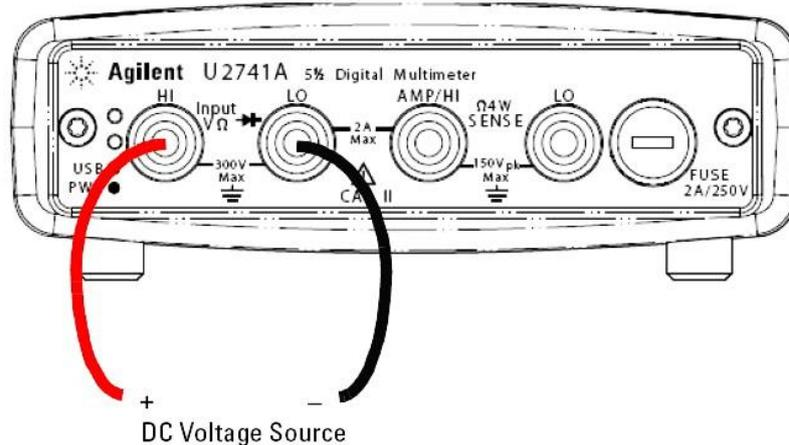

Figure D-2 – Measuring DC Voltage
2. Make the connection as shown in **Figure D-2** in order to measure DC voltage. You can control the U2741A via the **Keysight Measurement Manager (AMM)** software for U2741A or via **SCPI commands** sent through the USB interface from your own application programs.